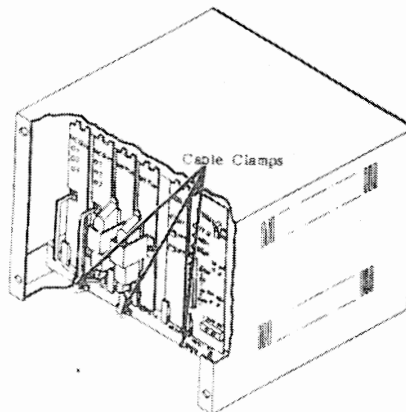

FIGURE 16
**07.32** Secure the modular cords to the MKSU shelf (Figure 16) using the plastic cable clamps that are provided.